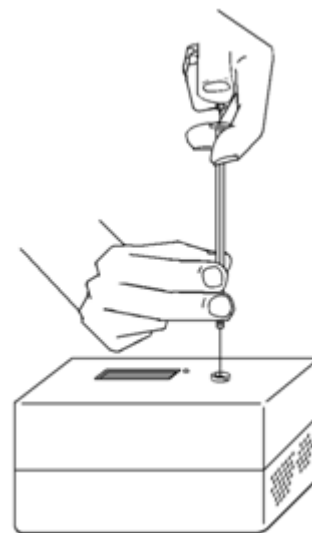

Figure 2
- b. To insert the needle of the syringe into the injection port of the Mini GC, hold the syringe with one hand and steady the needle with your other hand, as shown in Figure 2. Insert the needle into the injection port until the needle stop is fully seated. If the needle sticks, rotate it slightly while inserting. Do not move the plunger yet.